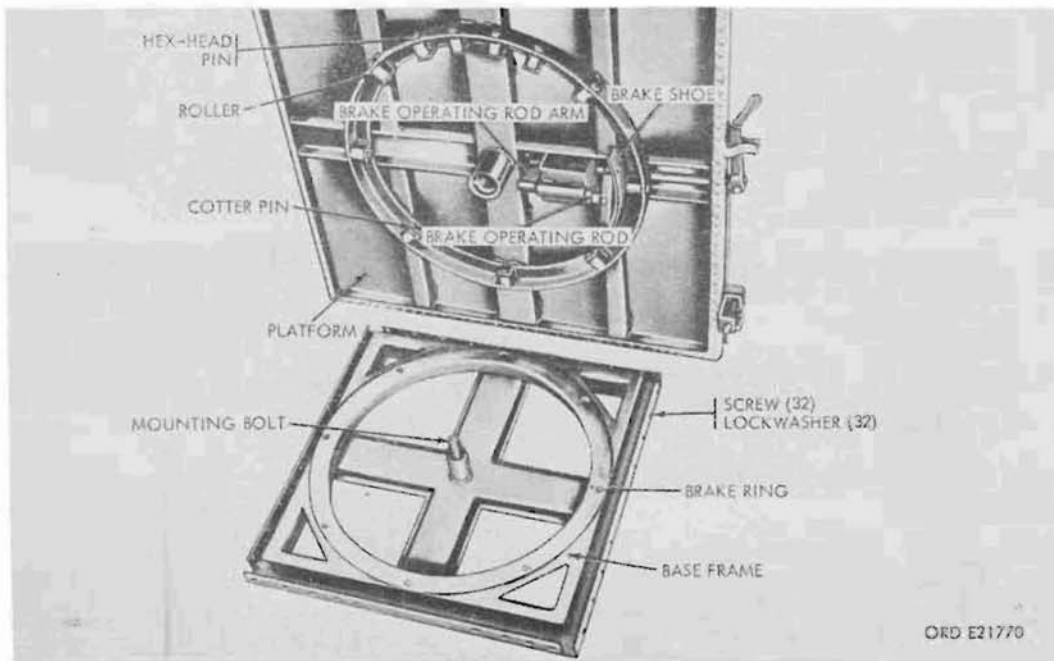
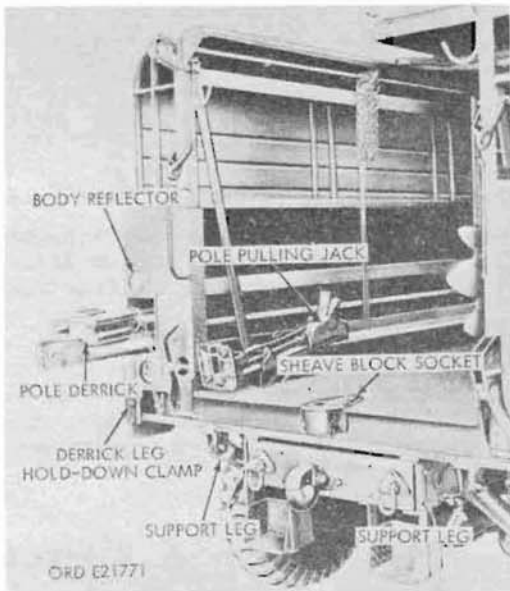

Figure 335. Revolving platform, rollers, and brakeshoe
Figure 336. V-17A/MTQ body mounted auxiliary equipment
a. Description. The V-17A/MTQ truck carries a revolving platform (fig. 335) on top of the body. The platform is constructed of a steel plate welded to a support ring. The ring has rollers and bearings, revolving on the base frame with a brake ring, which is bolted to the body. The pole derrick (fig. 336) is carried in the left side of the body and held in place by two derrick leg holddown clamps. The pole-pulling jack is mounted in a holder in the body on the left side of the body platform. A universal sheave-block socket is secured to the rear edge of the body platform. Wheel chocks